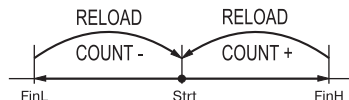

Figure 7.
3.1.2.2. **Fin.L** and **Fin.H** parameters set low and high limits of the count, at which counter is automatically reloaded with the value set in **Strt** parameter (figure 7). **Fin.L** value should be less and **Fin.H** value should be more than **Strt** value.